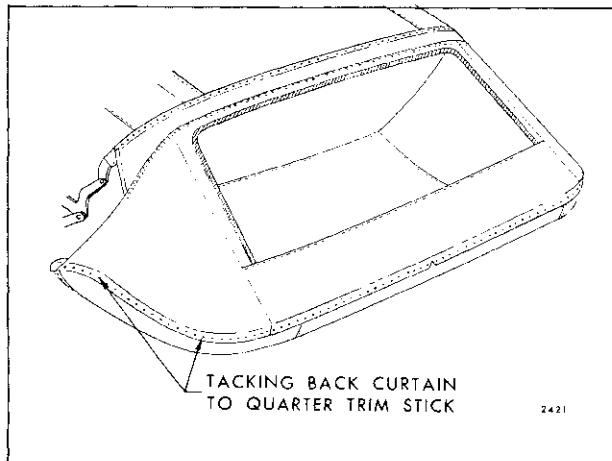

Fig. 13-49—Back Curtain Installation
- Tack remainder of back curtain material to rear quarter trim stick (Fig. 13-49).